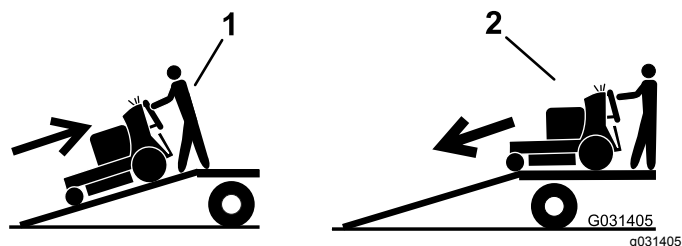

Figure 26
5. Back the machine up the ramp (Figure 26).